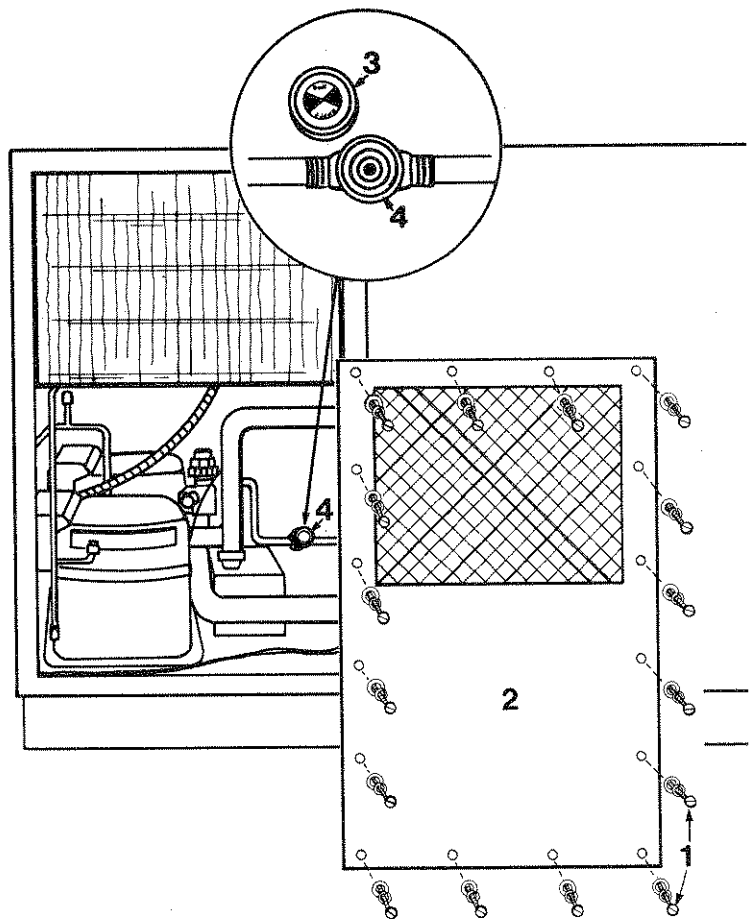

FIGURE C6
1. Remove the 16 screws (1) from the left rear panel (2) of the chamber. See Figure C6.
2. Remove the cap (3) from the sightglass (4).
2. Remove the 16 screws (1) from the left rear panel (2) of the chamber. See Figure C6 on Page C7.